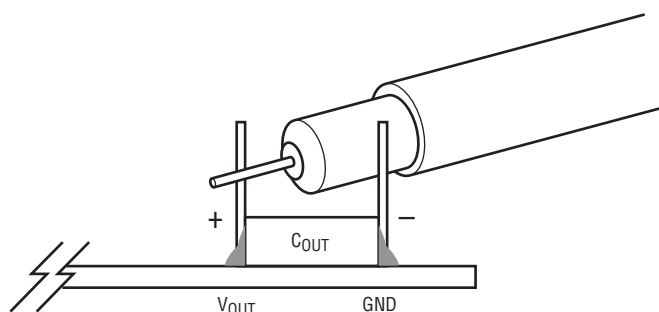

Figure 2. Measuring Input or Output Ripple Across Terminals or Directly Across Ceramic Capacitor
**NOTE.** When measuring the input or output voltage ripple, care must be taken to avoid a long ground lead on the oscilloscope probe. Measure the input or output voltage ripple by touching the probe tip directly across the  $V_{IN}$  or  $V_{OUT}$  and GND terminals or directly across relevant capacitor. See Figure 2 for proper scope probe technique.